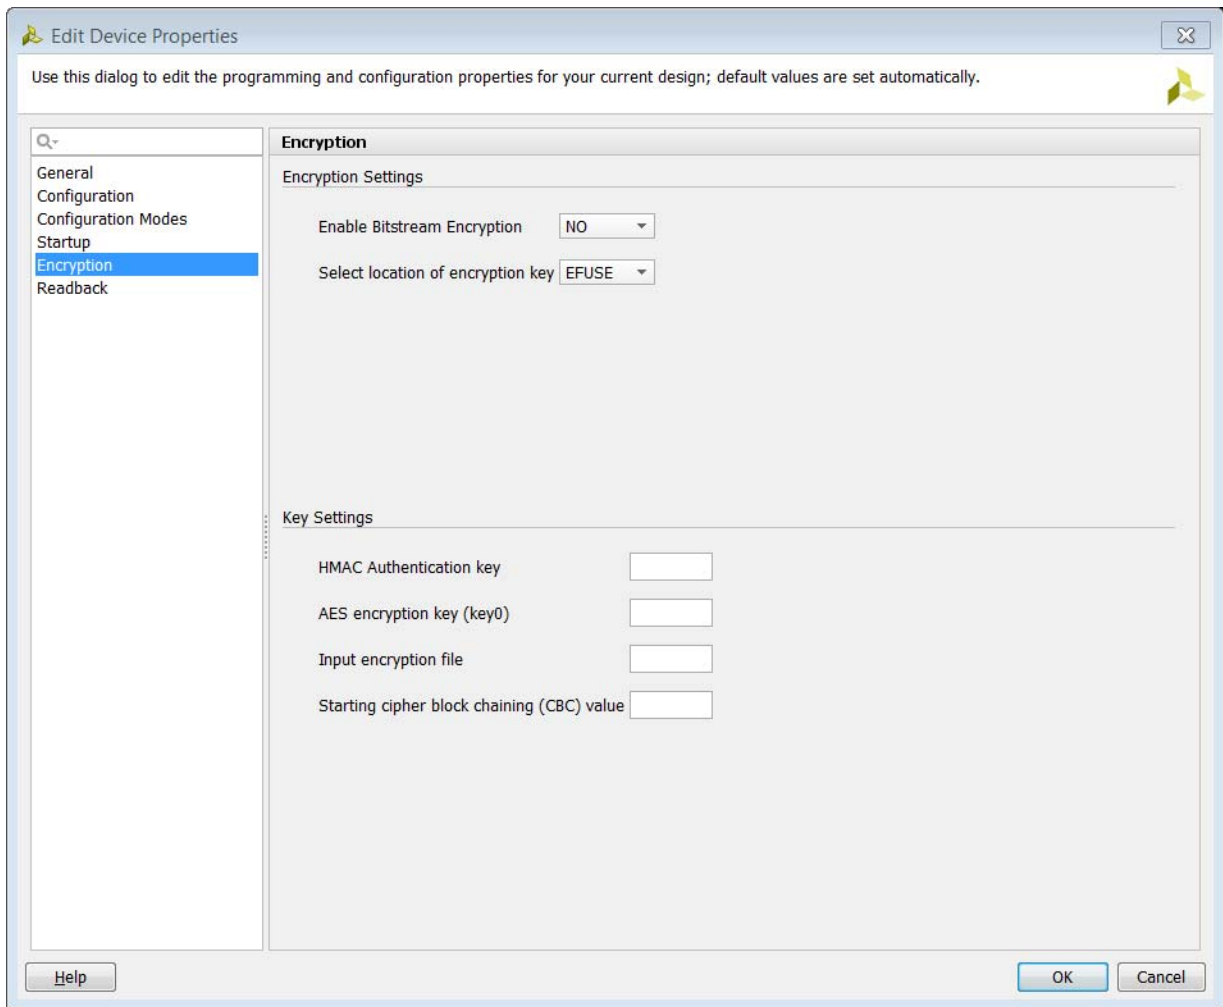

Figure 2-2: Edit Device Properties
2. In the **Edit Device Properties** dialog, select one of the categories in the left-hand column (see Figure 2-2).